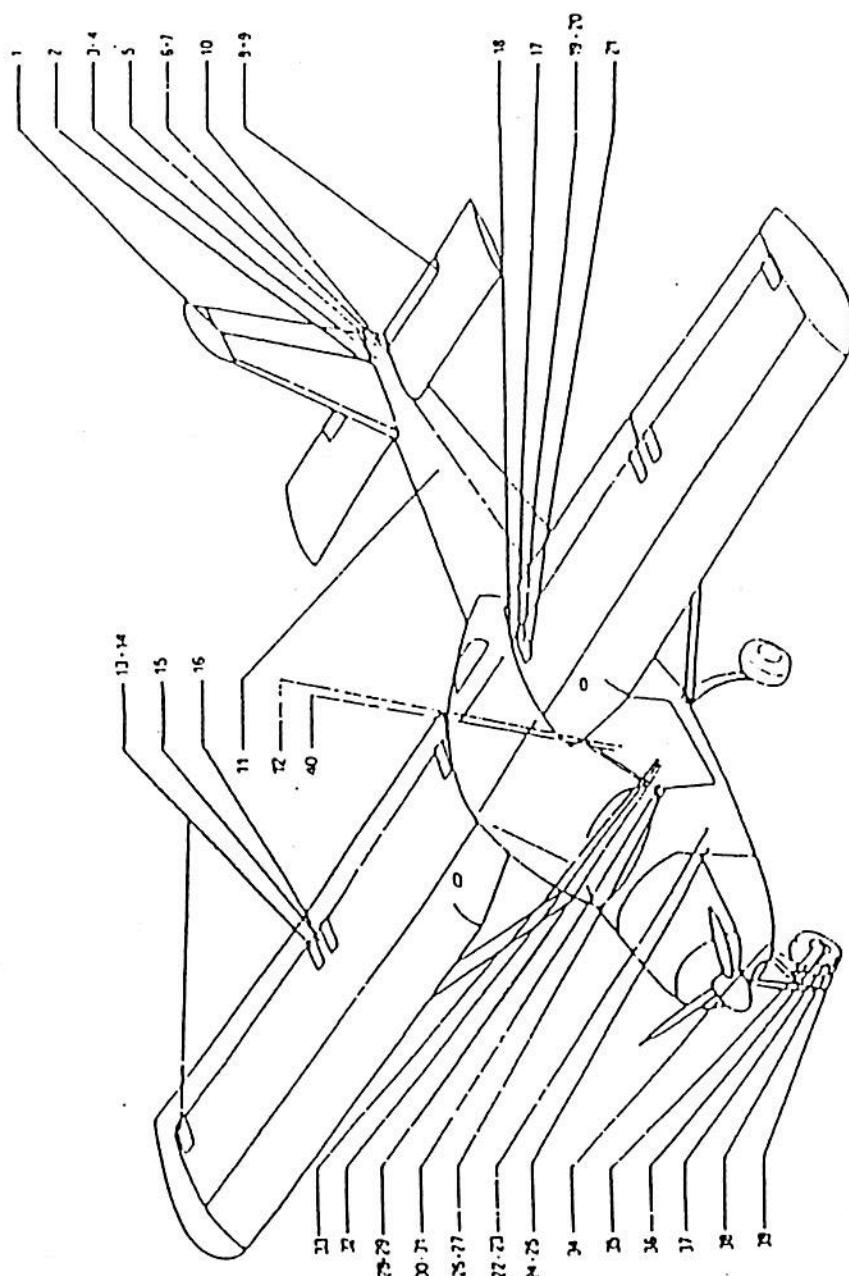

FIGURE 4 - POINTS TO LUBRICATE
1.8 POINTS TO LUBRICATE (See Figure 4)